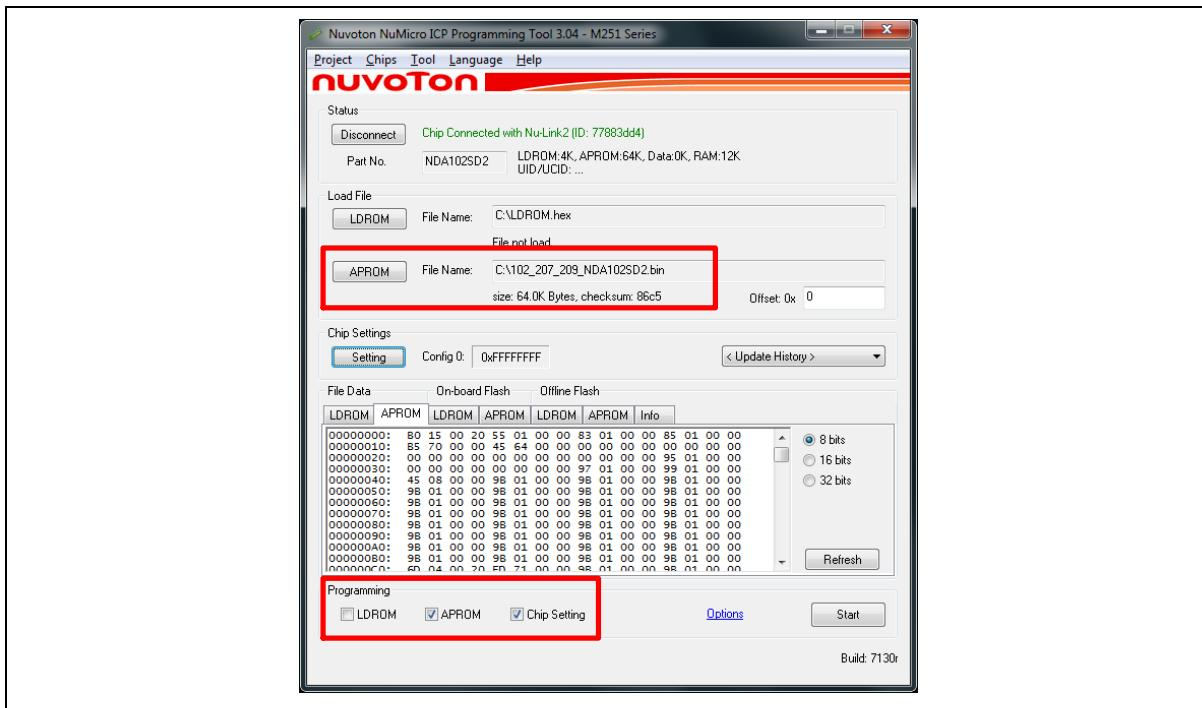

Figure 5-21 Default Project Image File Selection
2. Select the project image file, and choose the “Programming” setting. The default setting for Nuvoton DALI project is shown as Figure 5-21.